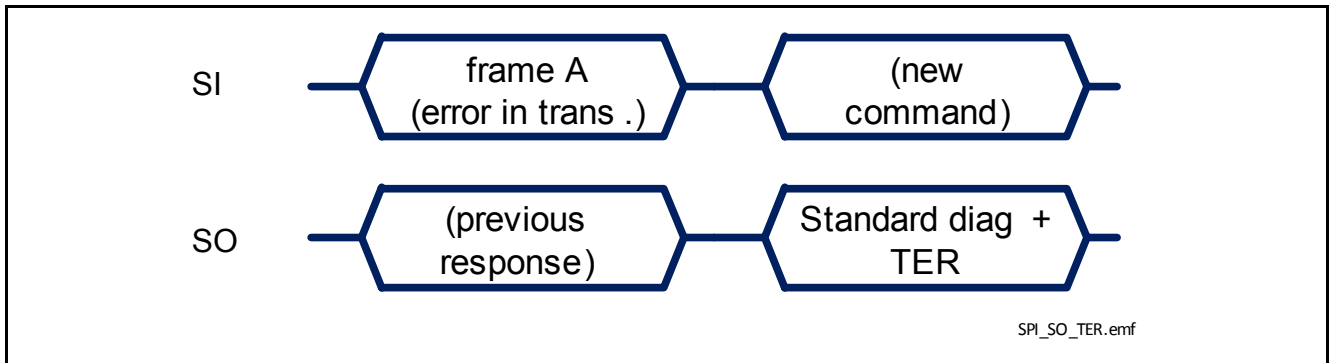

Figure 34 TLD5501-2QV response after an error in transmission
- in case an error in transmission happened during the previous frame (for instance, the clock pulses were not multiple of 8 with a minimum of 16 bits), shown in **Figure 34**